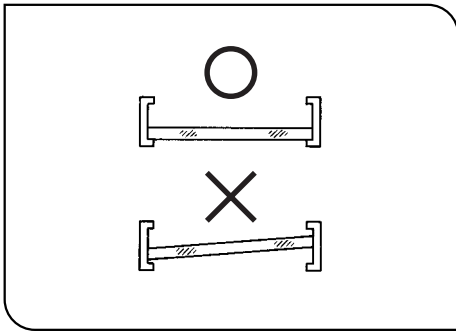

Fig. 39
- ⊙ Wait until the filters have cooled down enough before replacing a filter. Take out the filter holder ① and insert the required filter ②.
- ★ Insert the filter so that it comes at the bottom without tilting, as shown in Fig. 39. If the filter is titled or not inserted to the bottom, it may drop from the filter holder.